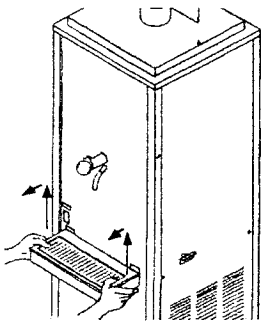

Fig. 3
B. Lift up the drip tray to remove it (See Fig 3).